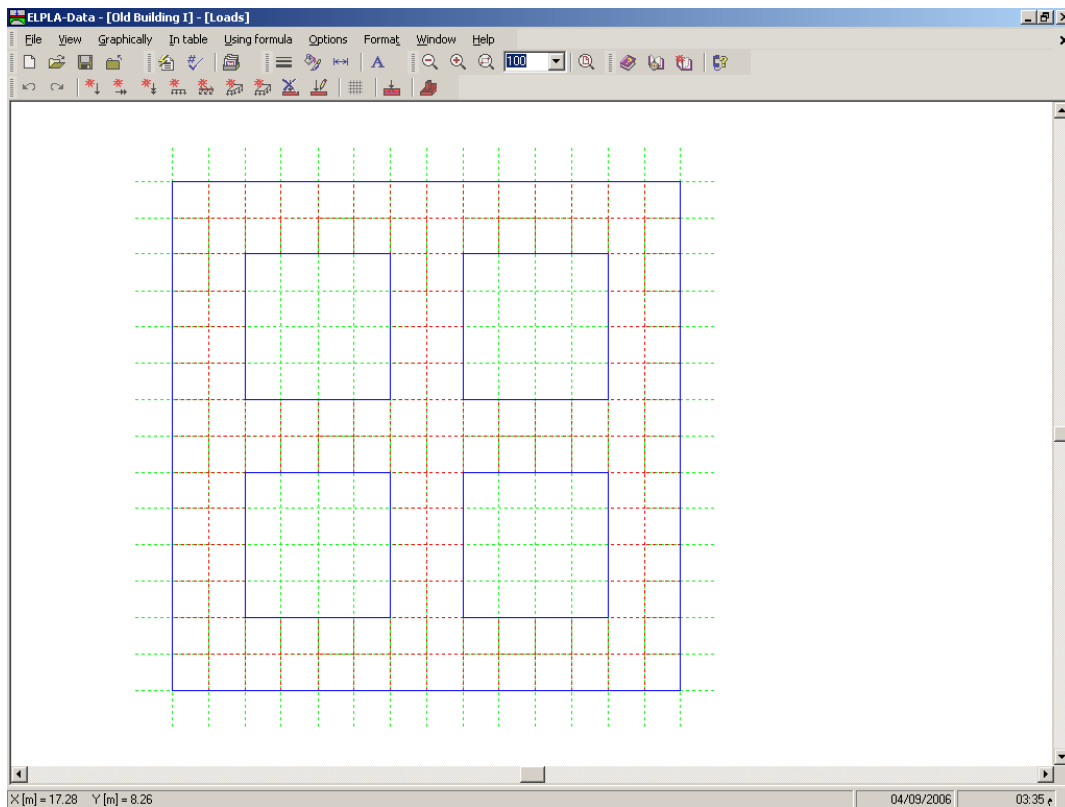

Figure 9-27 "Loads" embedded program
To define the loads, choose "Loads" command from "Data" menu of *ELPLA-Data*. The following embedded program in Figure 9-27 appears.
- Choose "Point loads" command from "In Table" menu in the window of Figure 9-27. The following list box in Figure 9-28 appears